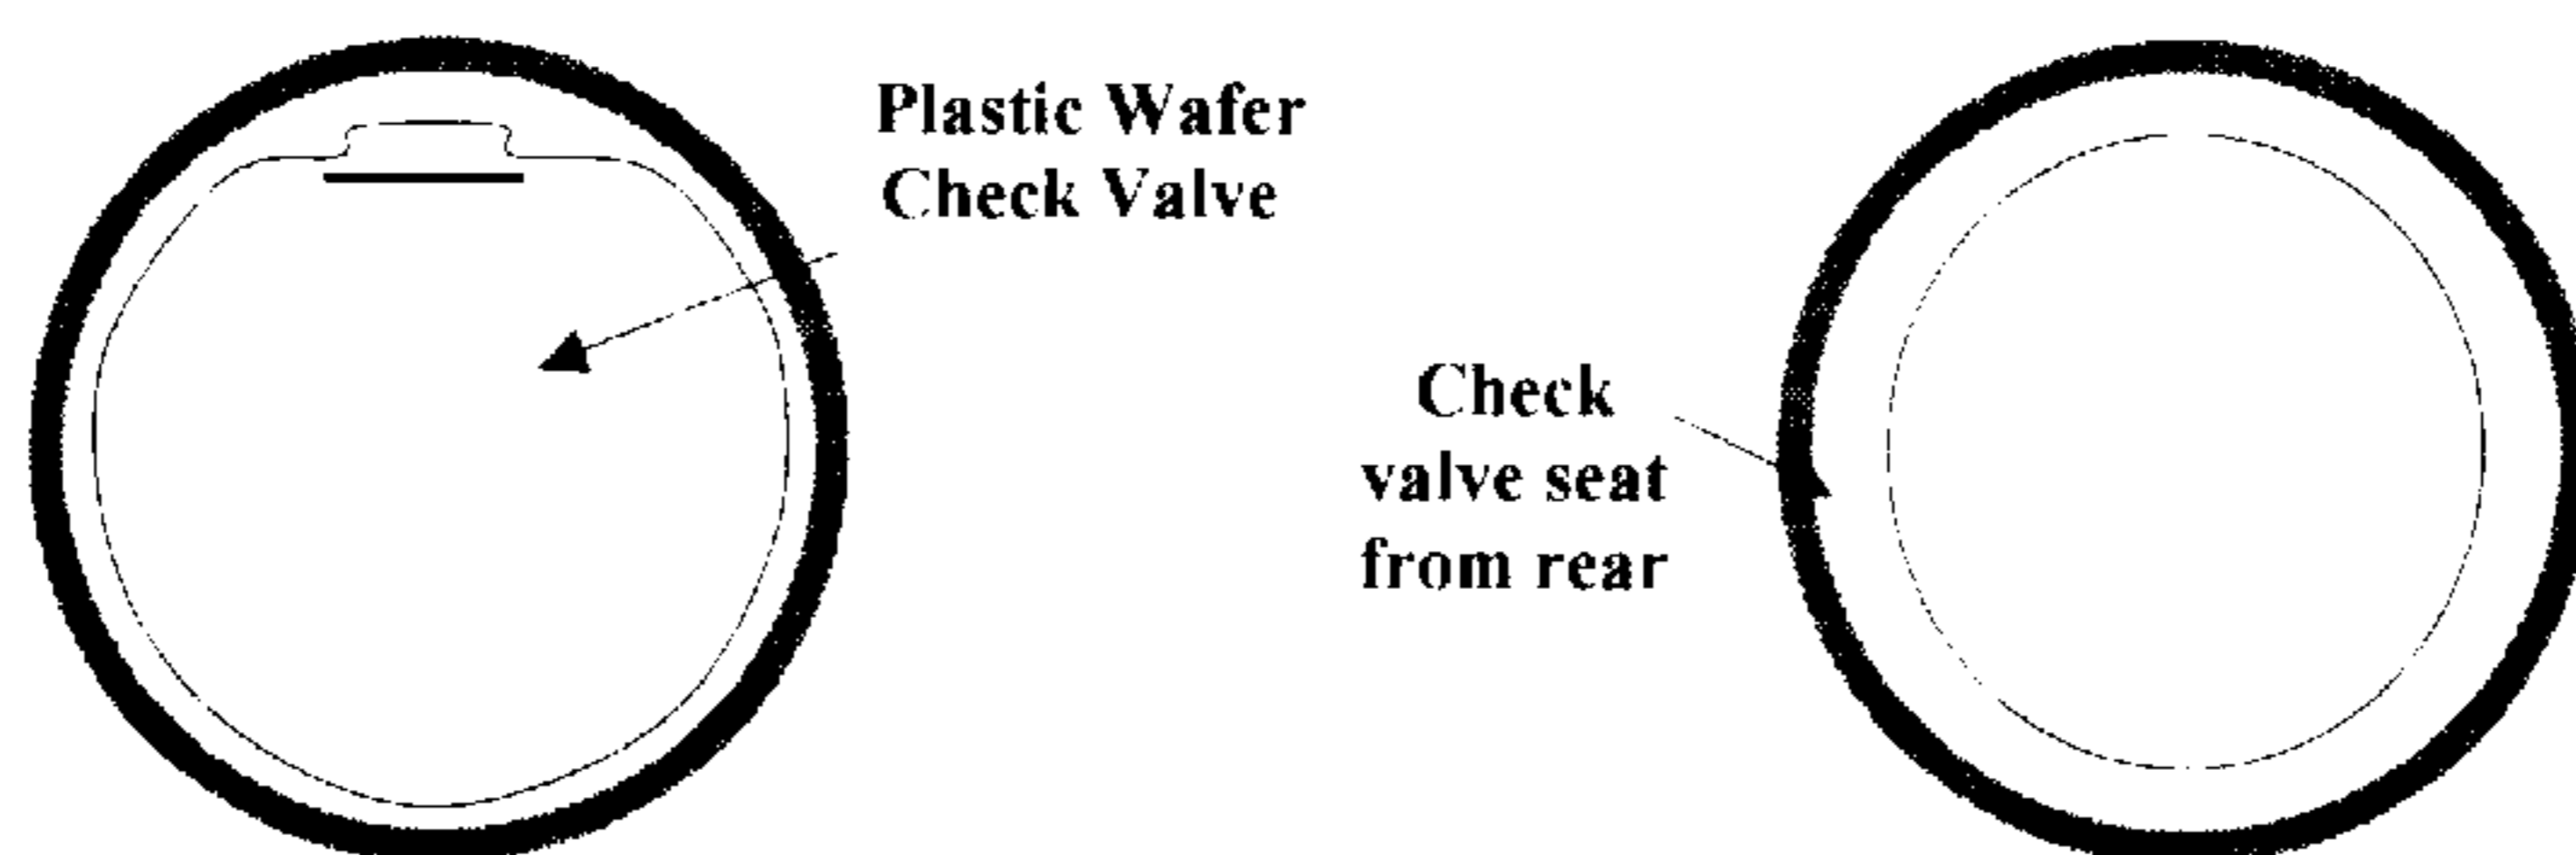

FIG. 4: Cross sectional view at Check Valve
4. FIG. 4: Cross Section at Valve Seat